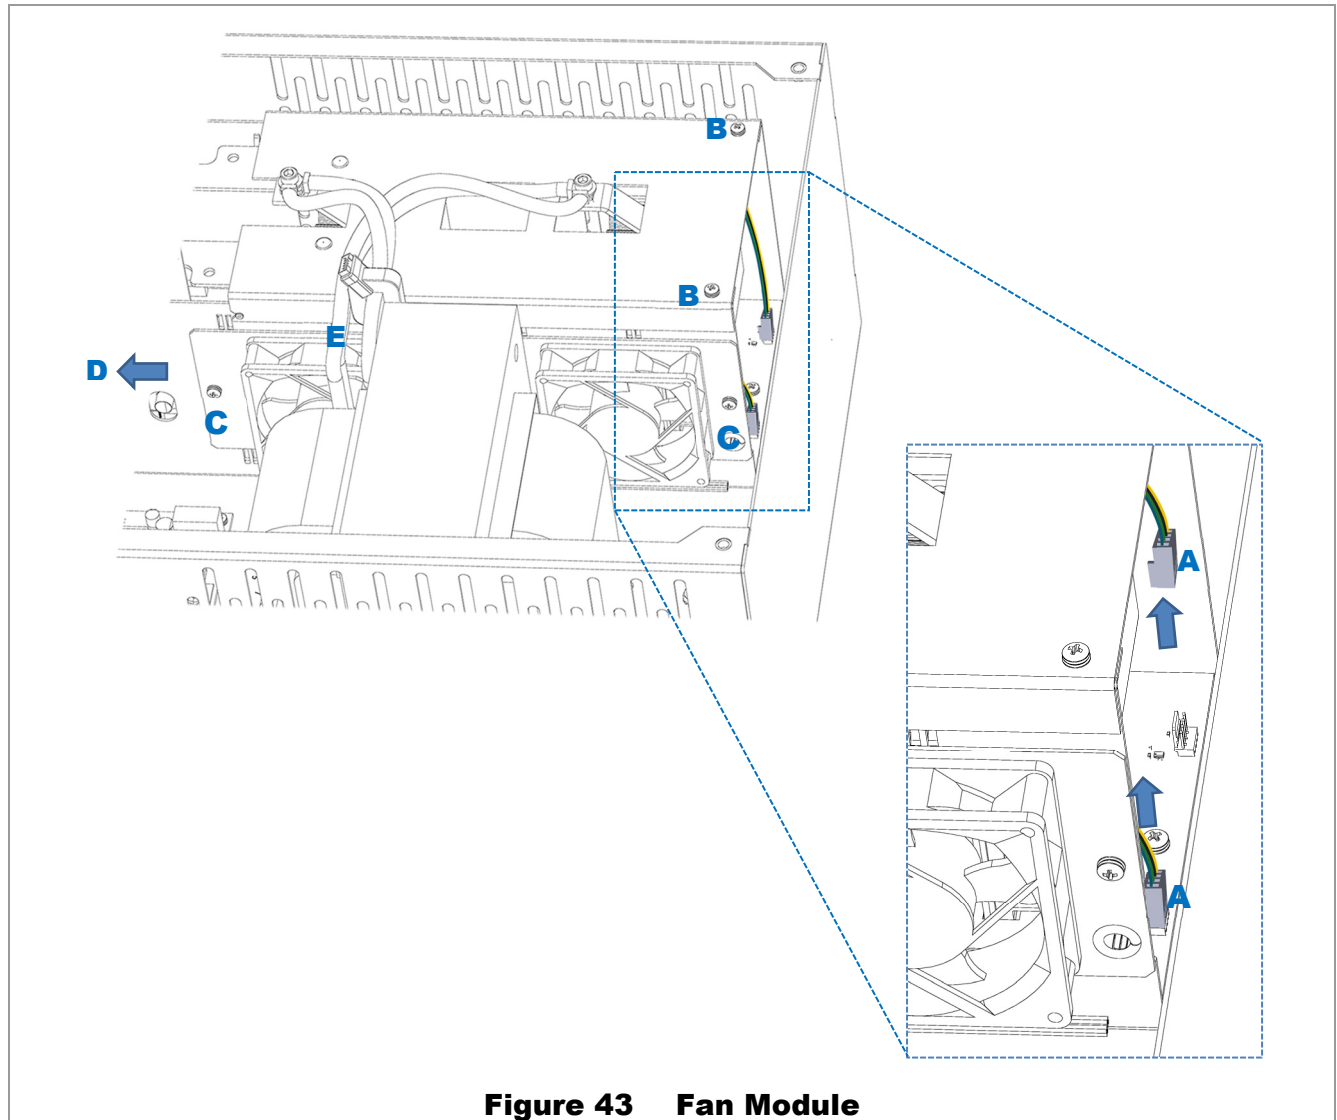

Figure 43 Fan Module
1. Remove the two fan plugs at the top of the carrier board. See **A** in the Figure 43 inset. If necessary, loosen the power module cage cover at **B** to allow access to the plugs.
2. Using a #2 Phillips screwdriver, remove the two screws securing the fan module. See **C** in Figure 43.
3. Slide the fan module out of its slot in the direction indicated by **D** in Figure 43. Note that the module will have to slide under the transformer cables **E**, which have not been removed.
4. Replace the fan module. Perform all previous steps in reverse order. See Figure 43.
5. Remove the two fan plugs at the top of the carrier board **F**. See **E** in Figure 48. If necessary, see **A** in the Figure 43 inset.